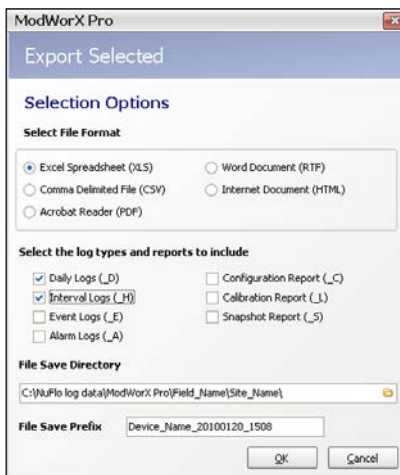

Figure 14.39
2. An Export Selected window will appear (Figure 14.39). To change the file path and/or file name from the defaults listed below, browse to the desired file path and/or type the desired entry in the field provided. See Log Directory and Filenames, page A-16 for more information.